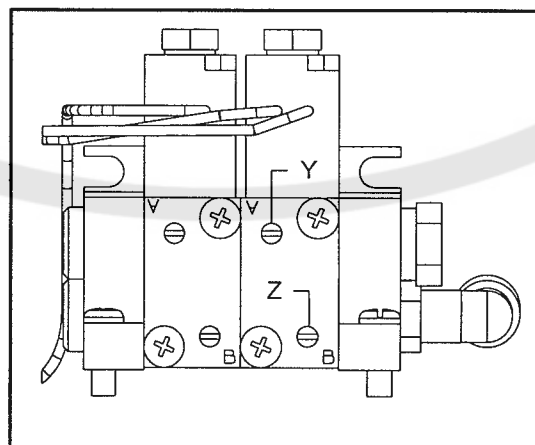

Fig 7
Adjust micro switch (B) so there is 1mm (.040") between (C) and (D). (Fig7)